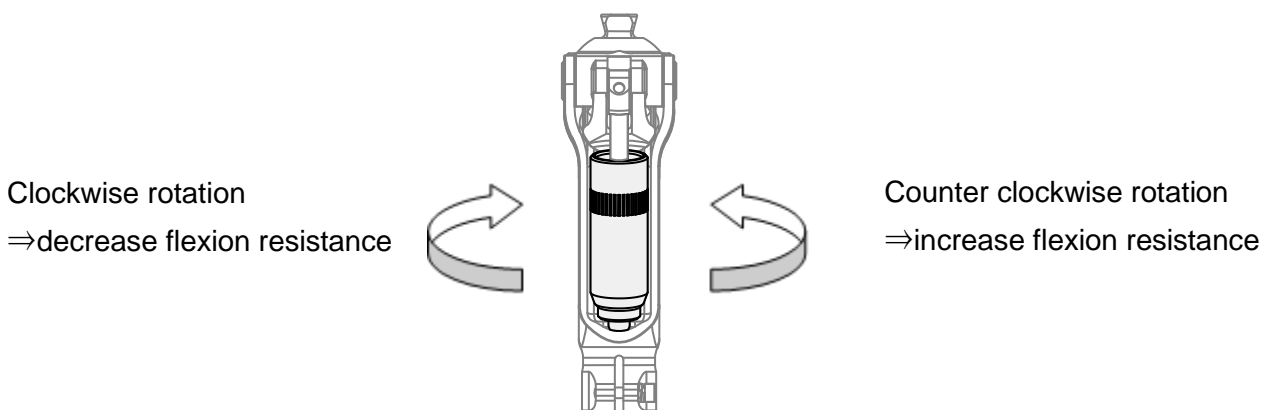

Fig. 3 Flexion resistance adjustment of hydraulic cylinder for swing phase control
- Counter clockwise rotation of the cylinder increases flexion resistance of the knee device. Clockwise rotation of the cylinder decreases flexion resistance (Fig.3). Hydraulic resistance will be changed from minimum to maximum by **2 rotations of the cylinder**. **Flexion resistance is in the intermediate state as the product's default setting.**